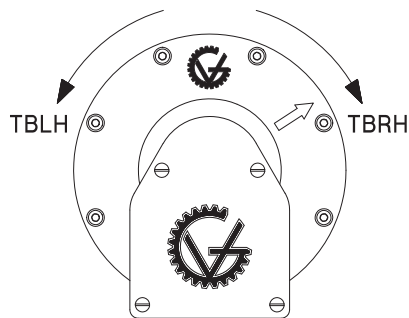

Fig. 2
1. Observe the arrow on the end flange of the drum. This indicates the direction of 'free' rotation of the Drummotor (refer to Fig. 2).